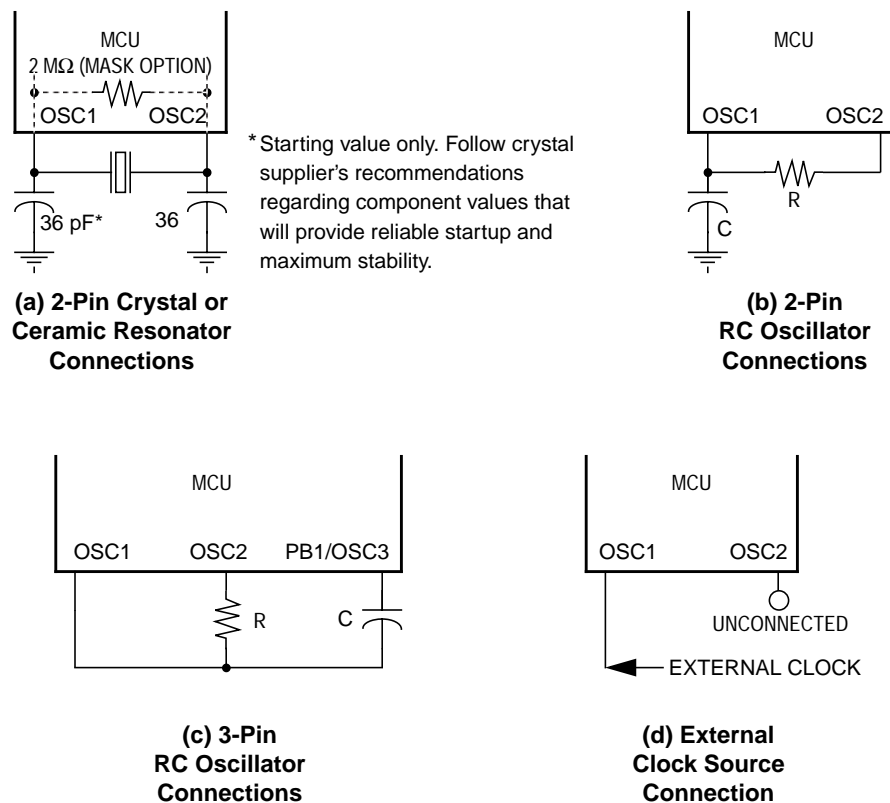

Figure 1-5. Oscillator Connections
1. A crystal, as shown in **Figure 1-5(a)**
2. A ceramic resonator, as shown in **Figure 1-5(a)**
3. An external resistor and capacitor using two pins, as shown in **Figure 1-5(b)**
4. An external resistor and capacitor using three pins, as shown in **Figure 1-5(c)**
5. An external clock signal, as shown in **Figure 1-5(d)**
The circuit in **Figure 1-5(a)** shows a typical 2-pin oscillator circuit for an AT-cut, parallel resonant crystal. The crystal manufacturer's recommendations should be followed, since the crystal parameters determine the external component values required to provide maximum stability and reliable startup. The load capacitance values used in the oscillator circuit design should include all stray capacitances. The crystal and components should be mounted as close as possible to the pins for startup stabilization and to minimize output distortion. An internal startup resistor of approximately $2\text{ M}\Omega$ is provided between OSC1 and OSC2 when the crystal/ceramic resonator oscillator option is used.
In cost-sensitive applications, a ceramic resonator can be used instead of the crystal. The circuit in Figure 1-5\(a\) is designed for either a crystal or a ceramic resonator. The resonator manufacturer's recommendations should be followed, since the resonator parameters determine the external component values required for maximum stability and reliable starting. The load capacitance values used in the oscillator circuit design should include all stray capacitances. The ceramic resonator and components should be mounted as close as possible to the pins for startup stabilization and to minimize output distortion. An internal startup resistor of approximately 2 MΩ is provided between OSC1 and OSC2 for the crystal/ceramic resonator oscillator mask option.
The 2-pin RC oscillator configuration can be used for very low-cost applications. With this option, a resistor must be connected between the two oscillator pins and a capacitor must be connected from the OSC1 pin to V_{SS} , as shown in Figure 1-5\(b\). The signal on the OSC2 pin is a square wave and the signal on the OSC1 pin approximates a triangular wave.
Another low cost, but more accurate, type of RC oscillator is the 3-pin configuration utilizing the PB1/OSC3 pin. With this option, a resistor must be connected between the OSC1 and OSC2 pins and a capacitor must be connected between the OSC1 and PB1/OSC3 pins, as shown in Figure 1-5\(c\). This 3-pin RC oscillator is more accurate than the 2-pin RC oscillator with respect to temperature, supply voltage, and/or device processing variations. The signal on the OSC2 and PB1/OSC3 pins is a square wave and the signal on the OSC1 pin approximates a triangular wave.
An external clock from another CMOS-compatible device can be connected to the OSC1 input, with the OSC2 input not connected, as shown in Figure 1-5\(d\). This configuration is possible regardless of whether the oscillator is set up for crystal/ceramic resonator, 2-pin RC, or 3-pin RC operation. However, if the 3-pin RC oscillator is selected, the PB1/OSC3 pin also must be left unconnected.